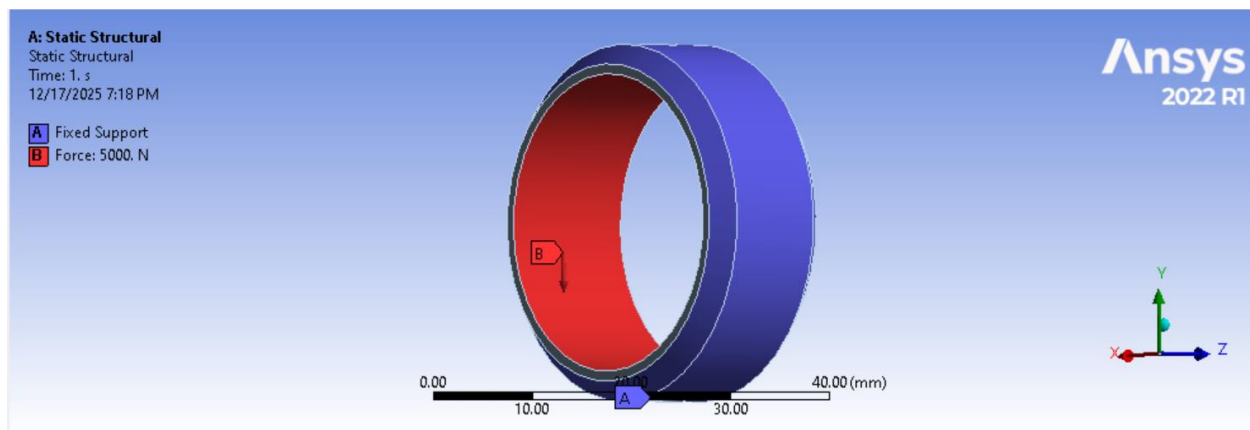

Figure 4a: Bearing Model with Boundary Conditions
- **Geometry:** Simplified bearing structure as shown in **Figure 4a**